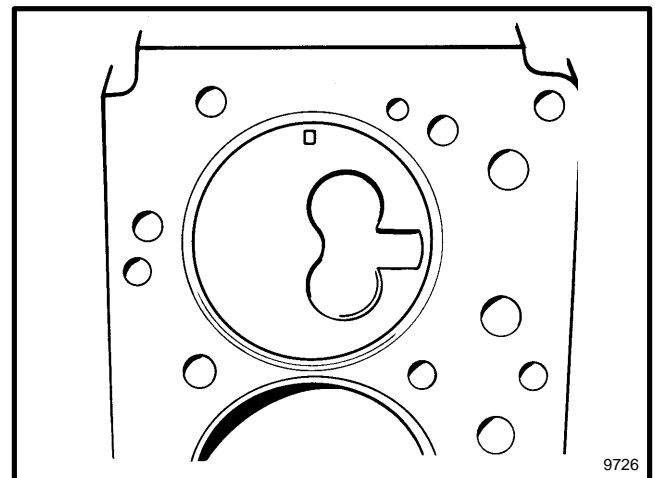

FIGURE 52. POSITION OF THE PISTON IN THE CYLINDER
4. Apply clean engine oil to the piston rings and the journals for the connecting rods. Install the piston assemblies into the correct cylinders. During installation, the small mark on the top of the piston must be toward the end of the engine with the cooling fan. See FIGURE 52.